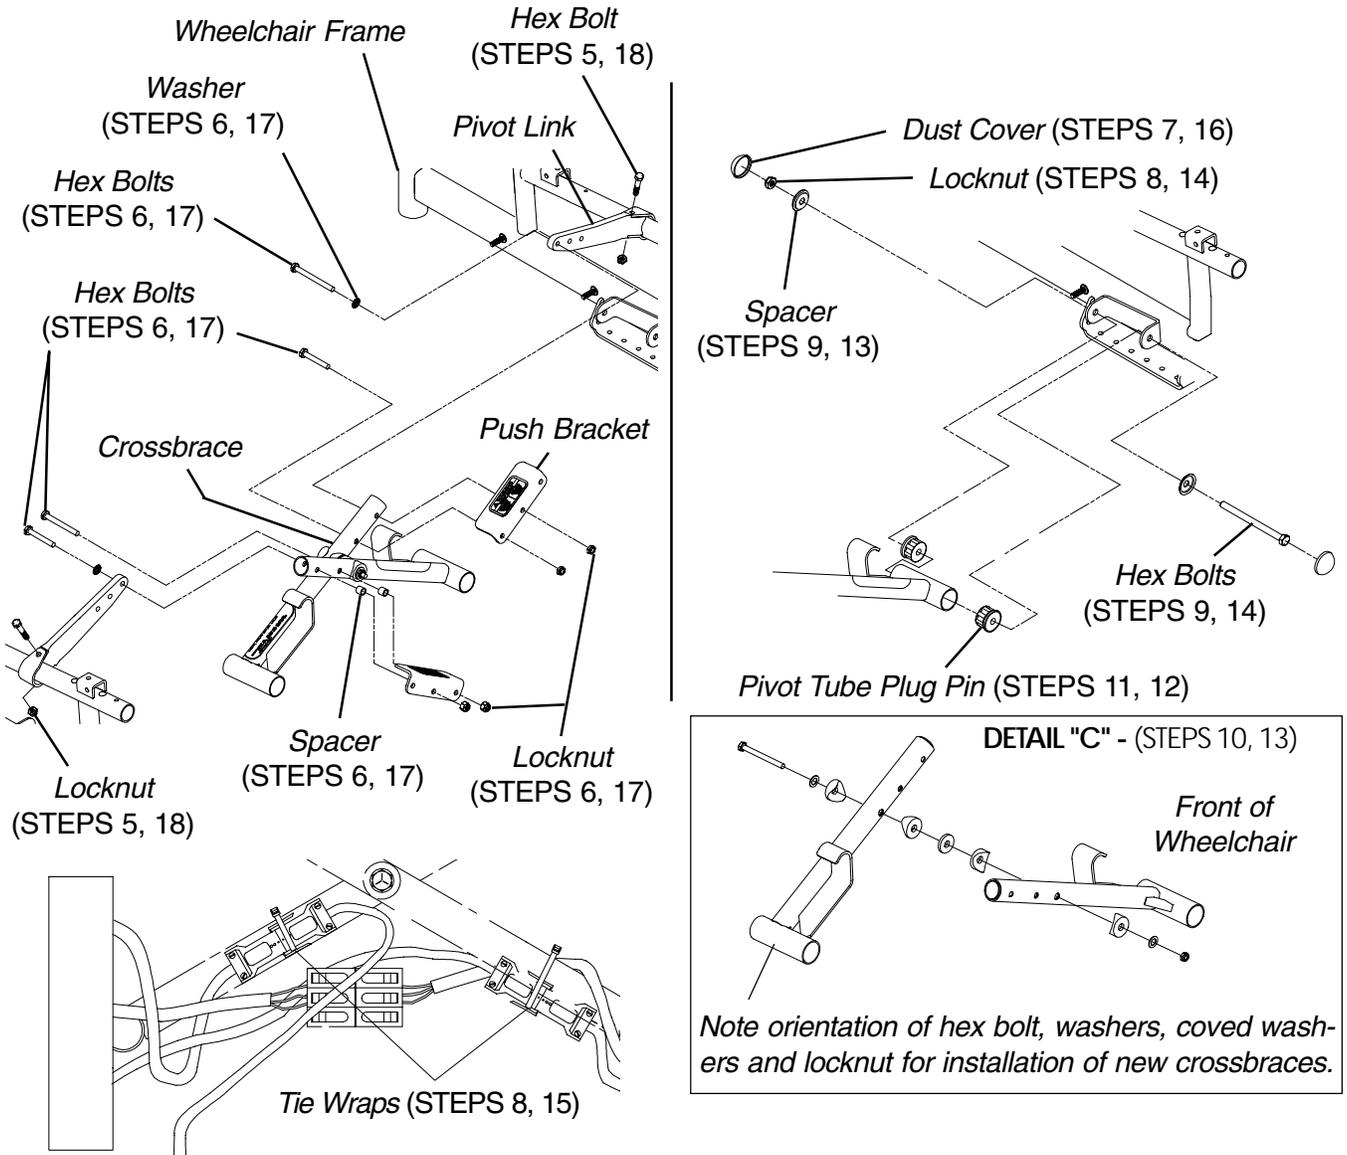

FIGURE 16 - REPLACING CROSSBRACES - CAPTAIN'S SEAT
## REPLACING CROSSBRACES - CAPTAIN'S SEAT (FIGURE 16)
- Remove the hex bolts and locknuts that secure the two (2) pivot links to the existing crossbraces.
- Remove the hex bolts, spacers, washers and locknuts that secure the two (2) push brackets to the existing crossbraces.
- Remove the hex bolts, washers and locknuts that secure the bottom of the two (2) existing crossbraces to the wheelchair frame.
- Remove the hex bolt, coved spacers, washers and locknut that secure the two (2) existing crossbraces together.
- Remove the four (4) pivot tube plug pins from the bottom of the two (2) existing crossbraces.
- Install the four (4) pivot tube plug pins into the bottom of the two (2) new crossbraces.
- Assemble the two (2) new crossbraces together. Refer to DETAIL "C" in FIGURE 16 for hardware orientation.
- Reinstall the hex bolts, washers and locknuts that secure the bottom of the two (2) new crossbraces to the wheelchair frame and tighten.
17. Reinstall the hex bolts, spacers, washers and locknuts that secure the (2) push brackets to the new crossbraces and tighten securely.